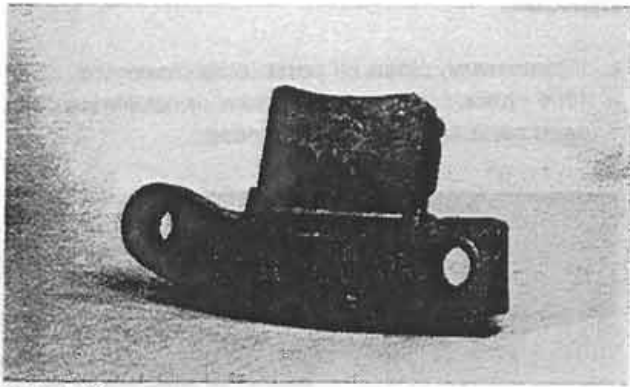

Figure 11:
3. In the cam side casting, inspect the actuator pins and bores for excess wear (Fig. 11).